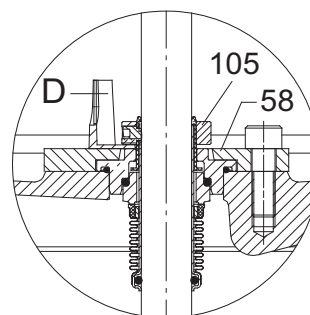

Fig. 10 Fitting the adjusting fork
5. Lubricate O-rings (pos. 37a and 37b) and fit them in pump heads (pos. 2b and 2c).
6. Fit lower pump head (pos. 2c) on shaft (pos. 51) and press it gently down on the shaft. Press it with even force onto the sleeve.
7. Fit upper pump head (pos. 2b).
8. Fit washer (pos. 66a) and nuts (36). Cross-tighten the nuts in three steps.
9. Lubricate the shaft with soapy water and press the shaft seal down on the shaft and home in upper pump head (pos. 2b).
10. 11-45 kW (Ø22): Fit retainer (pos. 58).
11. Lubricate and cross-tighten screws (pos. 58a).
12. Press the shaft home and tighten the screws (pos. 113) of the shaft seal.
14. Lift the pump shaft and fit the adjusting fork. See fig. 10.